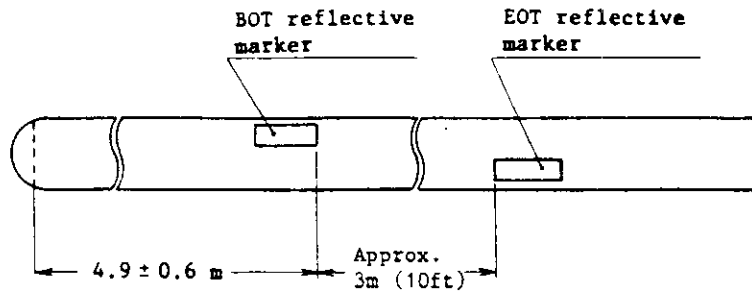

Figure K.25 Beginning of tape and end of tape reflective markers
- (1) Obtain a magnetic tape and install two new reflective markers as shown in Figure K.25.